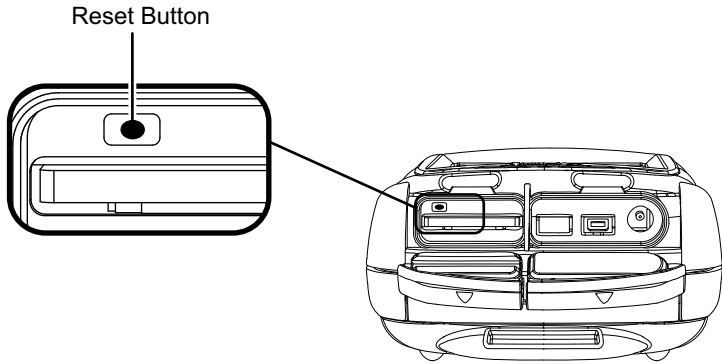

Figure 7-1. Resetting the Software
2. Use the stylus pen to lightly press the software reset button at the upper section of the SD card slot (Figure 7-1).